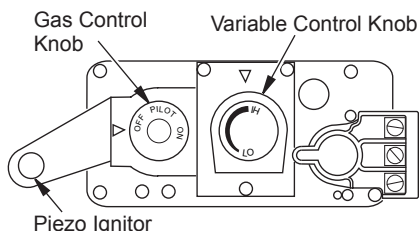

Figure 51 - Control Valve
5. Wait five (5) minutes to clear out any gas. Then smell for gas, including near the floor. If you smell gas, STOP! Follow "B" in the safety information on page 26. If you don't smell gas, go to the next step.
7. Turn gas control knob counterclockwise ↶ to PILOT (see Figure 51).